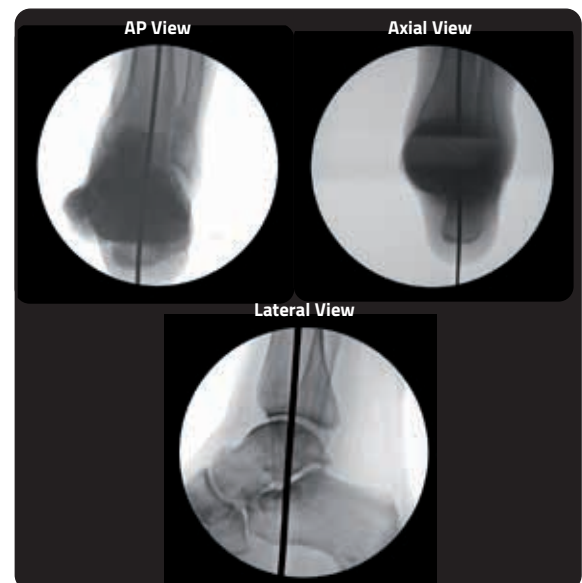

Fig. 3b
- c) Lateral view - Foot and ankle 90 degrees to tibial shaft. Control forward foot shift. This can result in awkward gait if foot is translated anterior relative to the tibia. **(Figure 3b)**